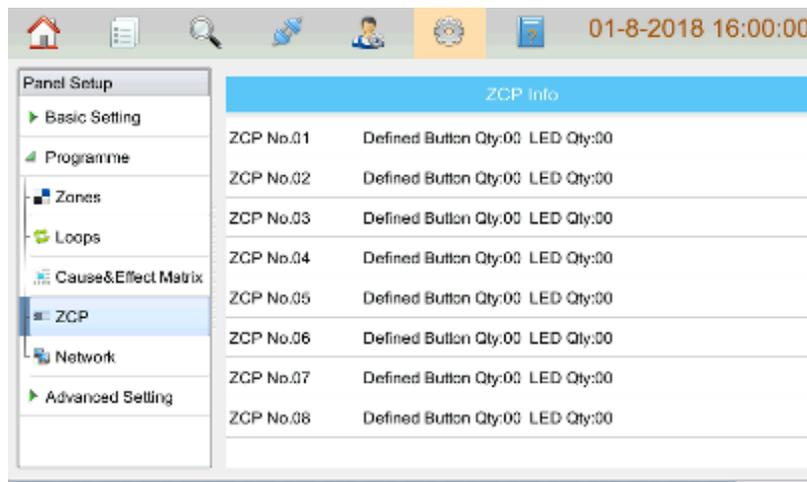

Fig 4.27
- ZCP: clicking **ZCP** in **Programme** menu enters the screen for setting the zone display and control panels. Refer to the figure below Fig 4.27.